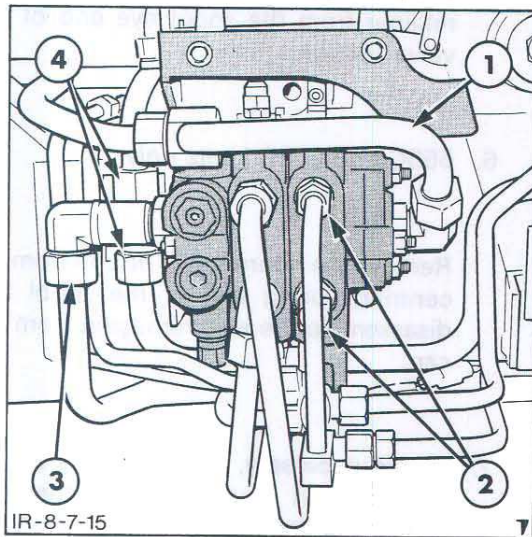

Figure 15
6. Disconnect and remove the tubing directly connected to each loader valve section, Figure 15.